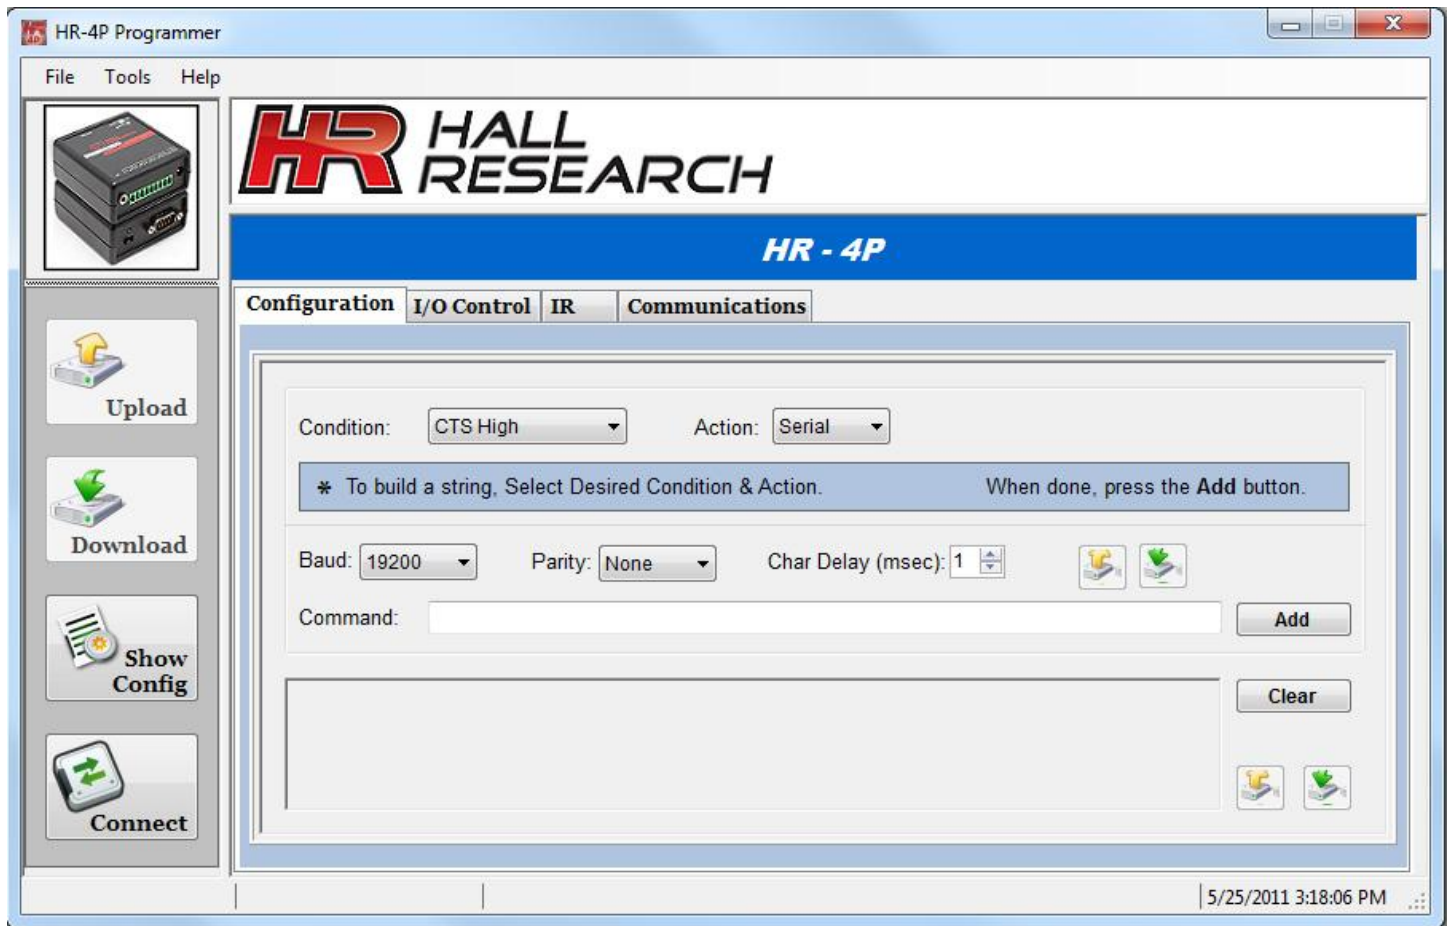

Figure 1 – Main
- Double click the desktop icon or its program menu selection and the main screen will be displayed as shown below in Figure1.
The main screen has four buttons along the left side shown in Figure 1, These are the most commonly used functions.